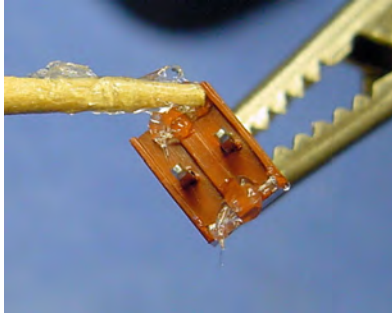

Figure 23-7. Adhesive being applied to edges of Molex connector
5. With a disposable toothpick, apply a bit of adhesive to the edges (not the metal leads) of the Molex headers (see Figure 23-7). This will keep them fully seated on the board during soldering.